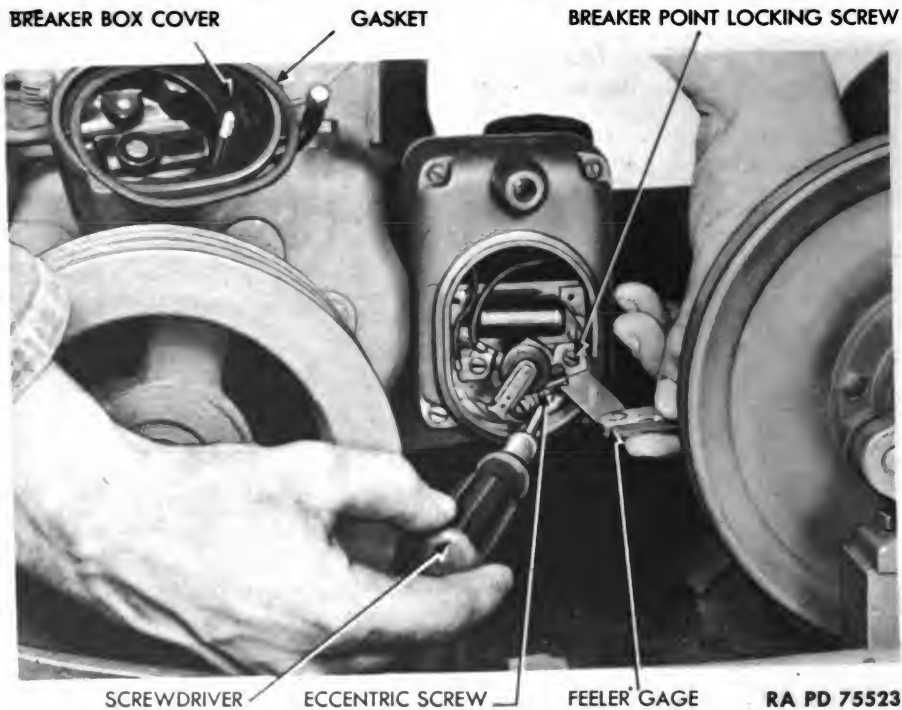

Figure 103 — Adjusting Steam Generating Plant Engine Magneto Points
(1) ADJUSTMENT OF MAGNETO BREAKER POINTS (fig. 103).